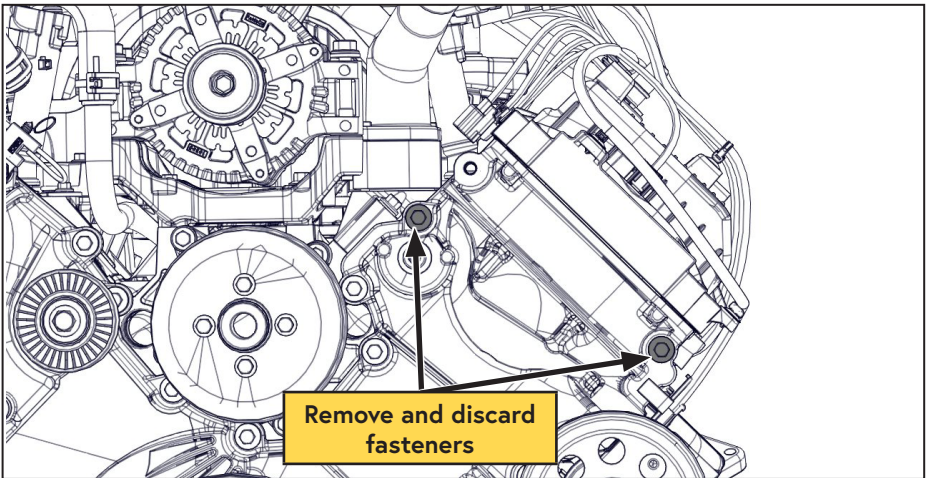

Figure 12 — Remove and discard fasteners
- Remove and discard the indicated fasteners (Figure 12).